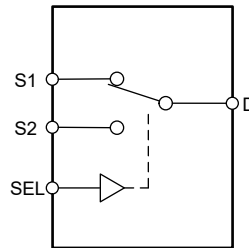

**Figure 6-9. Bandwidth Measurement Setup**
Bandwidth is defined as the range of frequencies that are attenuated by less than 3 dB when the input is applied to the source pin (Sx) of an on-channel, and the output is measured at the drain pin (D) of the device. Figure 6-9 shows the setup used to measure bandwidth.